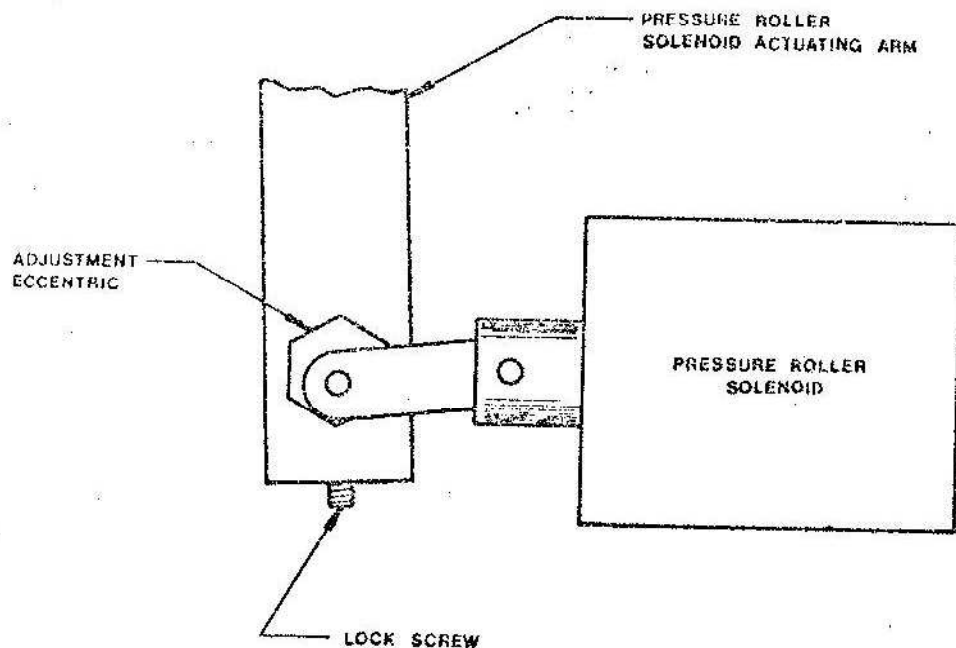

FIG. 2 - PRESSURE ROLLER SOLENOID ADJUSTMENT
- 4.2.1 The pressure roller solenoid is also designed to be acoustically quiet and hence must be adjusted so that it does not pole. Refer to figure 2 for adjustment points.